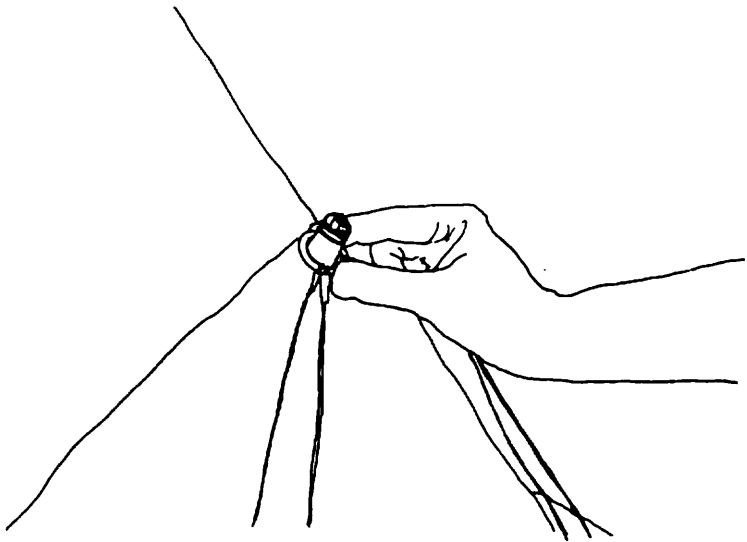

Fig 63
7) Detach the bridle ring from the snap hook. Remove the kingpost from the base by lifting straight up, and place the bridle ring over the kingpost base. (Fig 63) Install the protective cover over the kingpost base.